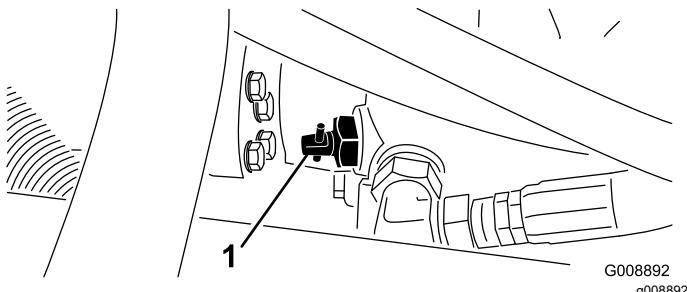

Figure 44
1. Locate the bypass valve on the pump (Figure 44) and rotate it 90°.